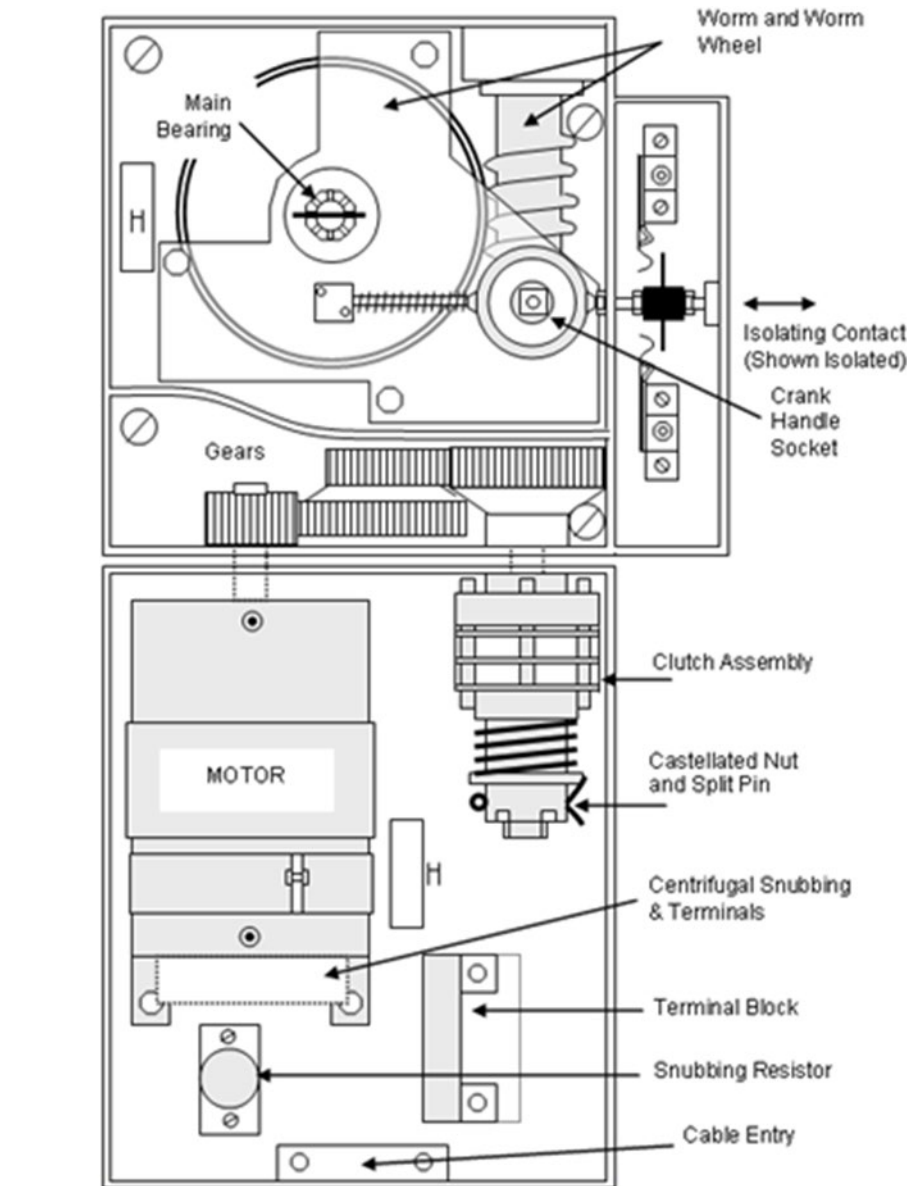

Figure 1 – Motor and Drive Assemblies
4. Motor Assembly (See Figure 1.)
5. Drive Assembly (See Figure 1.)